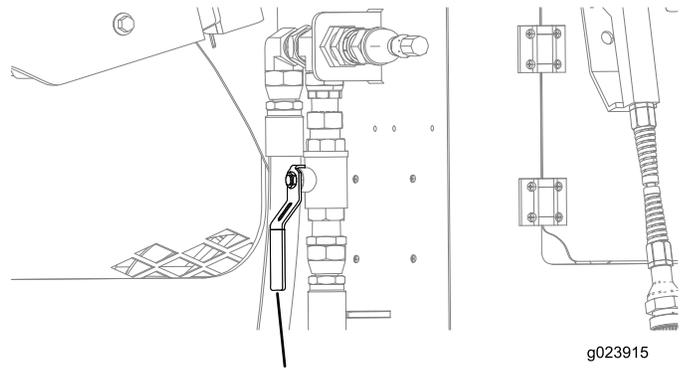

Figure 128
B. Open the valve near the rear compartment (Figure 128).